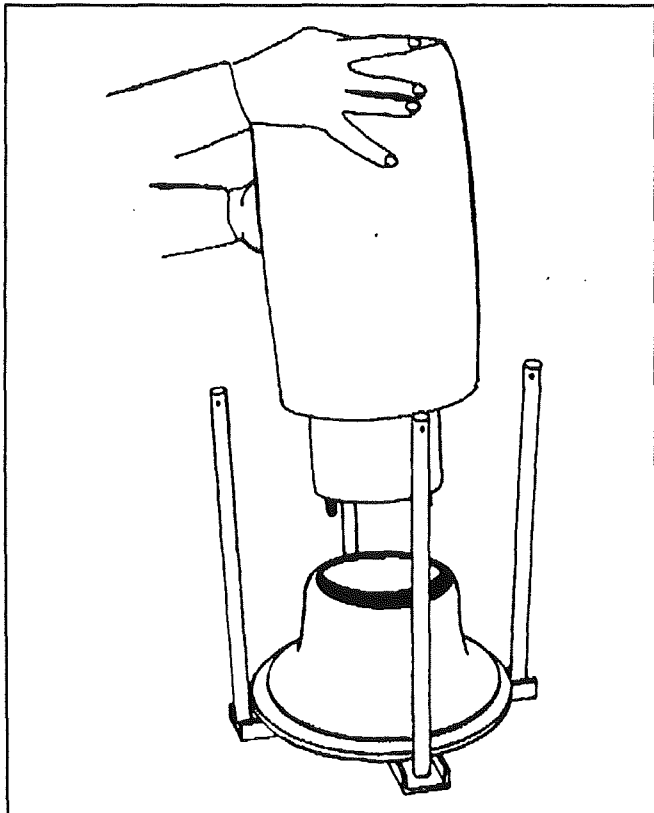

FIG. 13
4. Release the pressure from the air spring, then place partially assembled air spring on the piston (see figure 13).